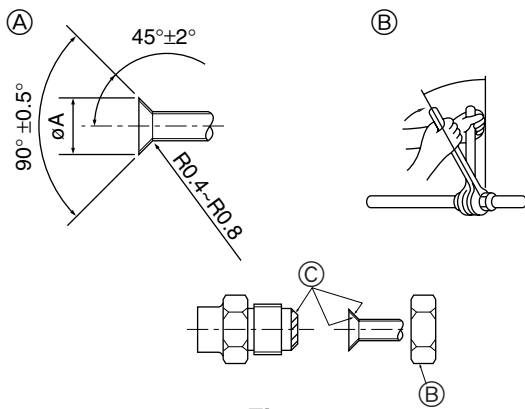

Fig. 4-1
4.1. Connecting pipes (Fig. 4-1)
① Flare cutting dimensions